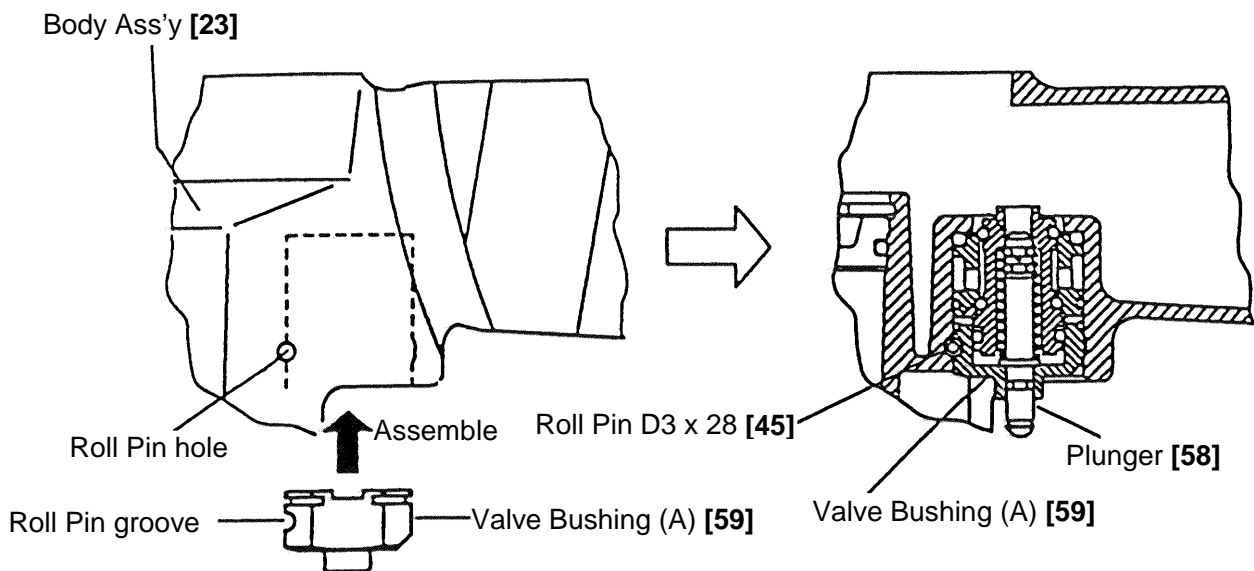

Fig. 17
- Thoroughly apply grease to the O-Ring (ID 1.8) [57] of the Plunger [58], O-Rings [53] and [55] (S-4), (ID 8.6) and (ID 11) of the Valve Piston [54], and the shaft of the plunger [58] shown in Fig. 17.
- As shown in Fig. 17, install Valve Bushing (A) [59] so that the Roll Pin groove in Valve Bushing (A) [59] will be aligned with the Roll Pin hole in the Body Ass'y [23]. First, insert the roll pin puller (3 dia.) into the roll pin hole. Then, upon confirming that the puller passes through the hole, drive in the Roll Pin D3 x 28 [45].
- [If an attempt is made to drive the roll pin with force when the roll pin groove in Valve Bushing (A) [59] is not aligned with the roll pin hole in the Body Ass'y [23], it will damage the periphery of Valve Bushing (A) [59] and prevent disassembly or reassembly.]